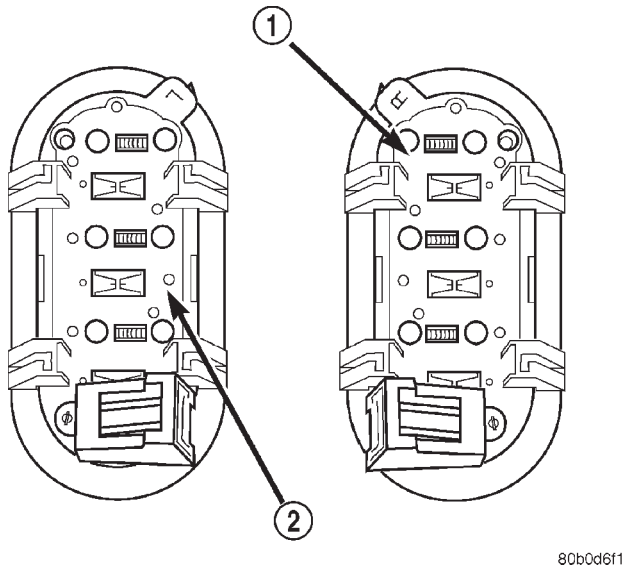

Fig. 2 Remote Radio Switches
(1) Remove the remote radio switch(es) (Fig. 2) from the steering wheel.